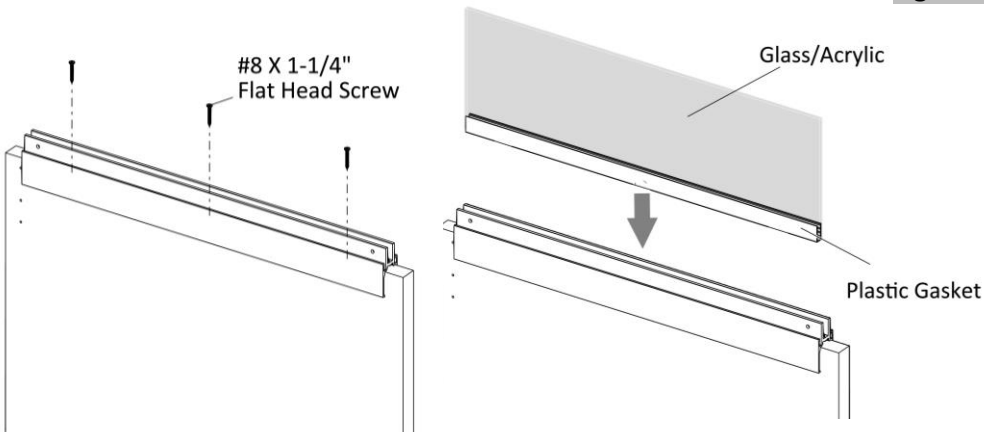

Figure 2
3. Securely fasten the base extrusion with #8 X 1-1/4" Flat Head Screws, (Figure 2)